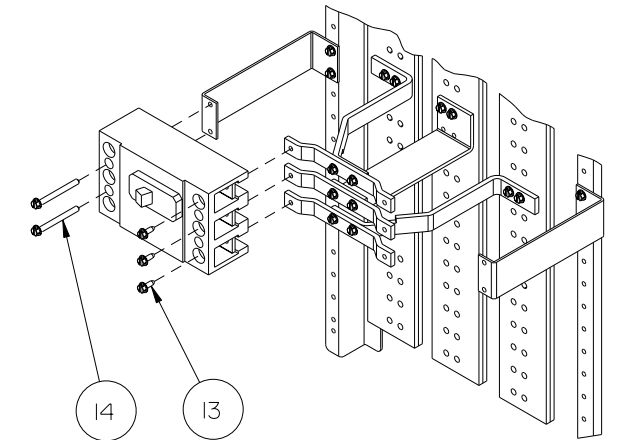

Figure 7
- Reference fig. 7 - Install a circuit breaker by inserting one 1/4-20 X 5/8" screw (item 13) into each of the three contacts on the line side of the breaker and into the 0.228" diameter holes at the left end of the A  $\phi$ , B  $\phi$  and C  $\phi$  link bars and tighten. Insert two 1/4-20 X 2-3/4" thread forming screws (item 14) into the two mounting holes at the load side of the breaker and into the two 0.228" diameter holes in the QJ mounting bracket and tighten. Torque all connections to the values as specified on the rear of the dead front.